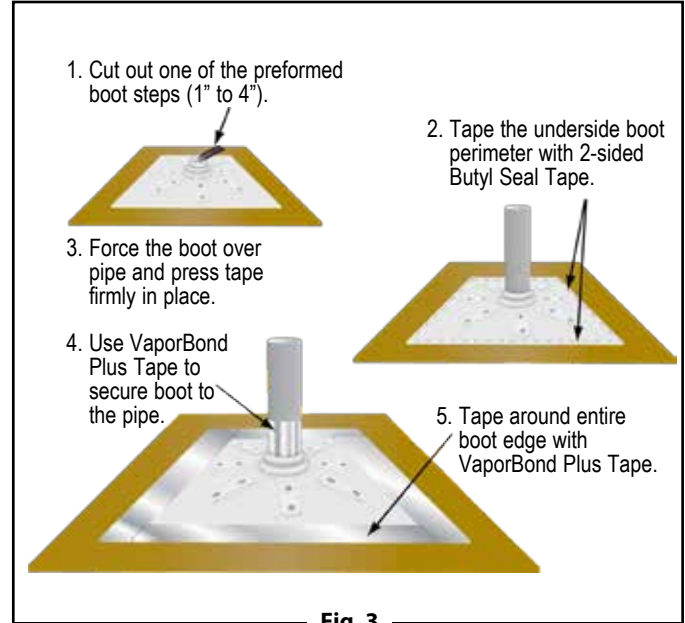

Fig. 3
- 1.4. Seal around all plumbing, conduit, support columns or other penetrations that come through the **Geo Vapor Plus** membrane. Pipes four inches or smaller can be sealed with VaporBoot Plus preformed pipe boots. VaporBoot Plus preformed pipe boots are formed in steps for 1", 2", 3" and 4" PVC pipe or IPS size and are sold in units of 12 per box (Fig. 3 & 5).